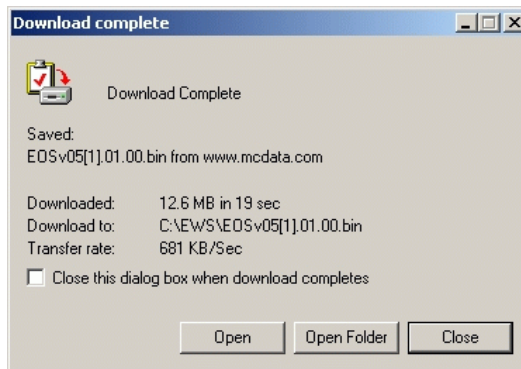

Figure 4-29 Download Complete Dialog Box
7. A *Download* dialog box displays, showing the estimated time remaining to complete the download process. When the process finishes, the dialog box changes to a *Download complete* dialog box (Figure 4-29).